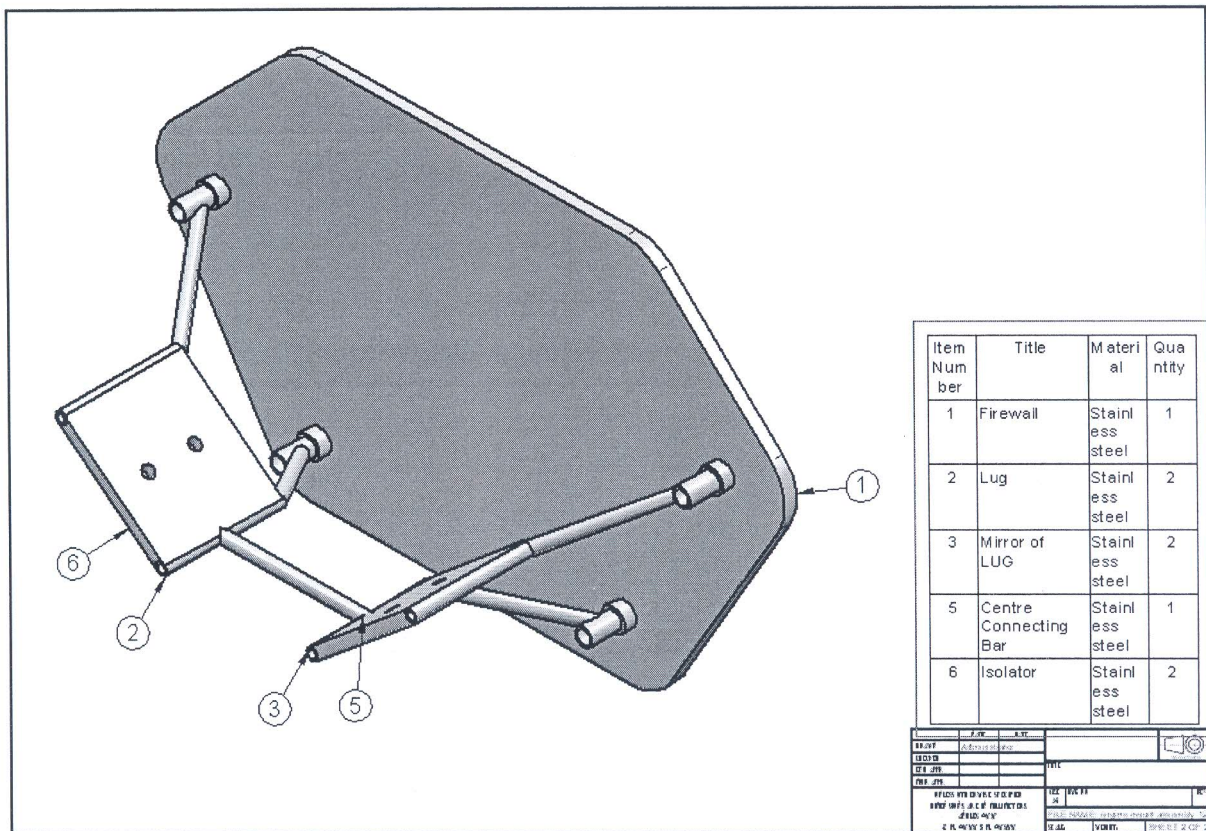

Fig 1
5. The details of an ENGINE MOUNT ASSEMBLY are shown in Fig. 1. Draw the following views of the assembly